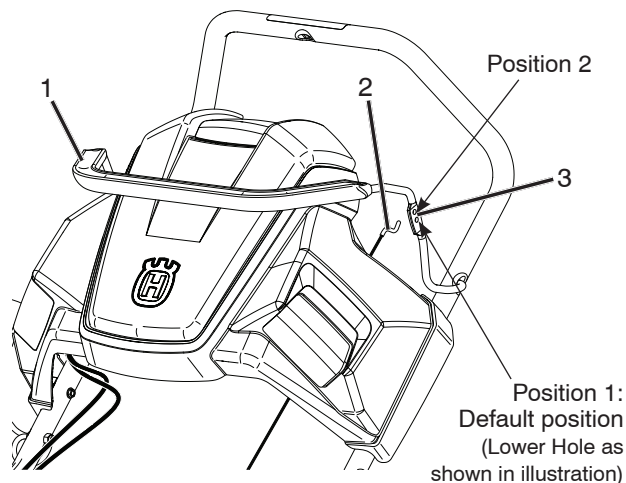

Figure 22
1. With the control bar disengaged, unhook and move the control cable to the highest position. (Figure 22).